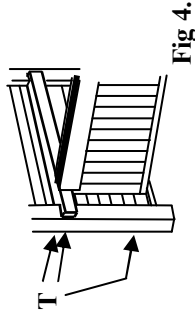

Fig 4.
9. The Box seat front should now be fitted. Use one of the box floor slats and the seat lid to determine the position. Fix in place as shown in Fig 4.